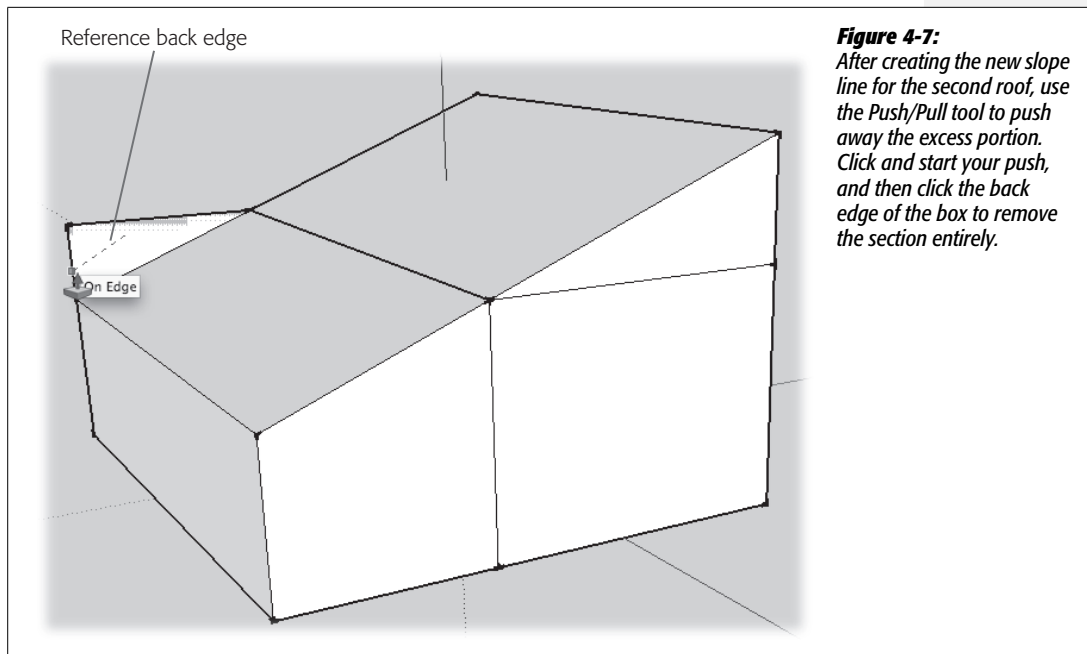

Figure 4-7:
6. Use the Push/Pull tool to remove the portion of the box above the roofline, as shown in Figure 4-7.